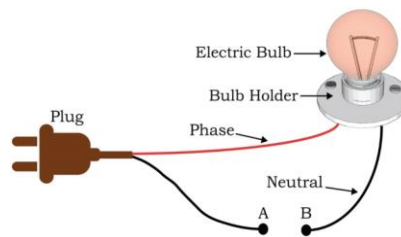

Fig. 2.13 Neutral terminal have two terminal A and B
Step 6. Leave one wire-free for testing i.e. terminals A and B are used for testing Figure 2.13 illustrate that neutral wire is having two terminals.